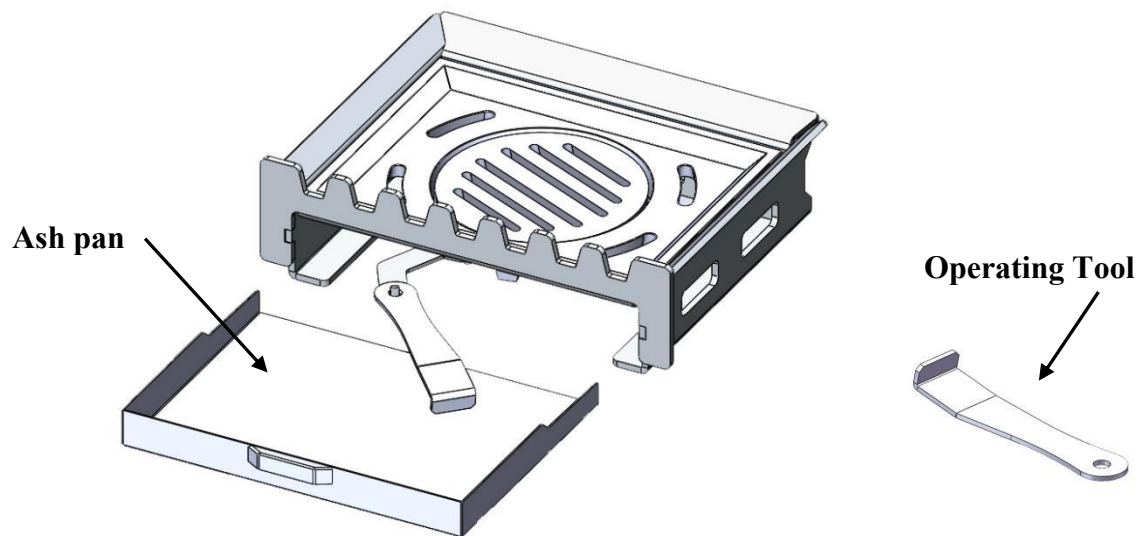

Fig. 7.Ash Pan
- Insert the fork end of the operating tool into the ash pan (see Fig. 7.).